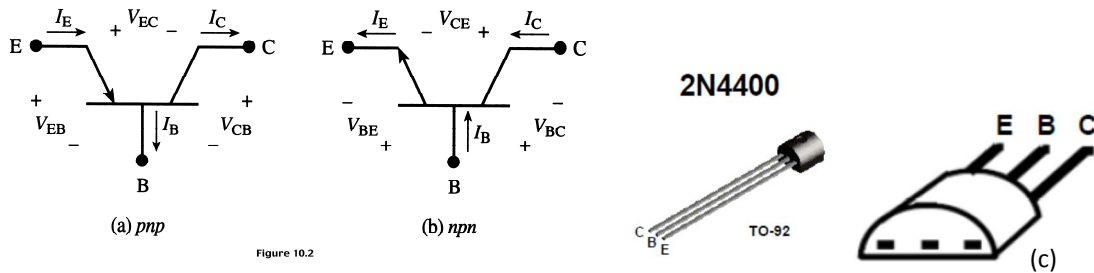
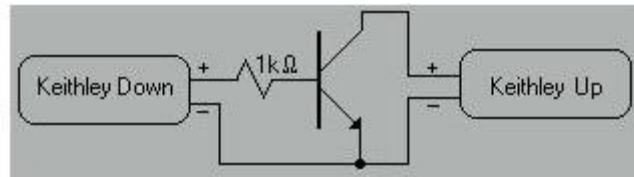

Figure 1. (a) NPN transistor symbol, (b) PNP transistor symbol and (c) TO-92 package 2N4400 BJT pin configuration.
Figure 4. A circuit for obtaining the I_C - V_{CE} characteristics.
Bipolar junction transistors (BJTs) are three terminal devices that make up one of the fundamental building blocks of the silicon transistor technology. Three terminals emitter (E), collector (C) and base (B) are shown in Figure 1 for the pnp transistor, npn transistor and a schematic of TO-92 package transistor, with the pin connections identified for the BJT 2N4400. **The 2N4400 is a general purpose NPN amplifier transistor.**
Identify the leads of the BJT 2N4400 using Figure 1 and construct a circuit shown in Figure 4.
Use the same circuit shown in Figure 4 and the same LabVIEW program **BJT_IV_Curves.vi**. Again, the lower Keithley is used to supply V_{BE} and the upper Keithley is used to supply V_{CE} . Set up the following to obtain the I_C - V_{CE} characteristic curves.
Again, use the same circuit shown in Figure 4 and the same LabVIEW program **BJT_ivcurve.vi**. Once again, the lower Keithley is used to supply V_{BE} and the upper Keithley is used to supply V_{CE} . Set up the following to obtain the I_C - V_{CE} characteristic curves.